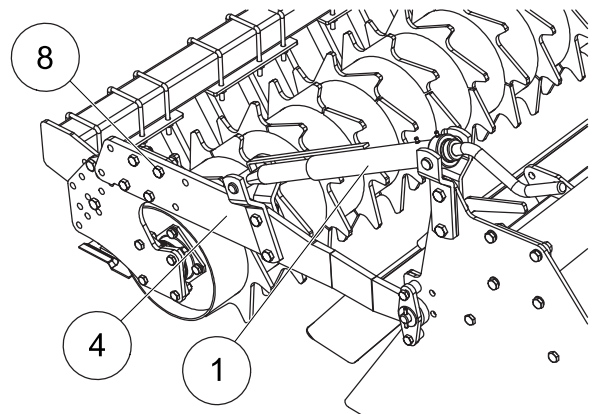

FIG. 9
- Fit the roller unit. Loosen the screws (8, "Fig. 9") of the roller supports to the arm (4).
- Mount the roller adjustment jacks (1, Fig. 9).